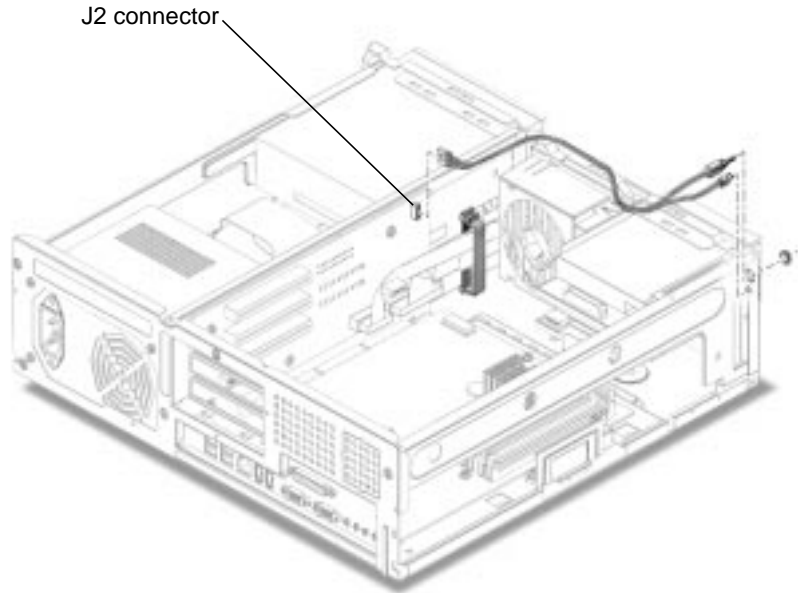

FIGURE 6-8 Removing and Replacing the Power Switch/LED Assembly
5. Disconnect the power switch/LED cable from the riser board connector J2 (FIGURE 6-8).
1. Position the power switch/LED assembly into the chassis (FIGURE 6-8).